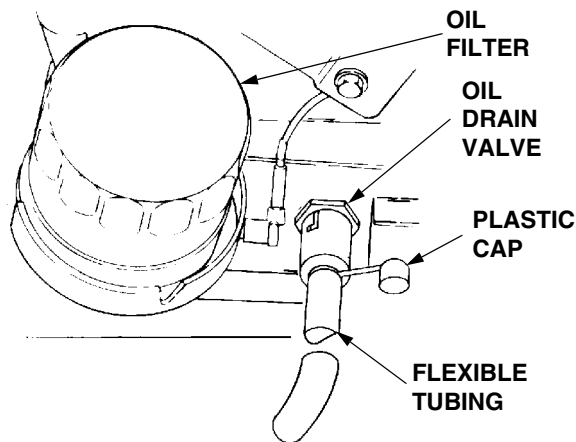

Figure 19
The oil filter is located behind the left side panel and is mounted on the engine (See Figure 19).
3. Unseat the plastic dust cap from the engine oil drain valve. To prevent loss of the cap, do not remove the cap's retaining ring from the drain valve (Refer to Figure 19). Remove the dipstick.